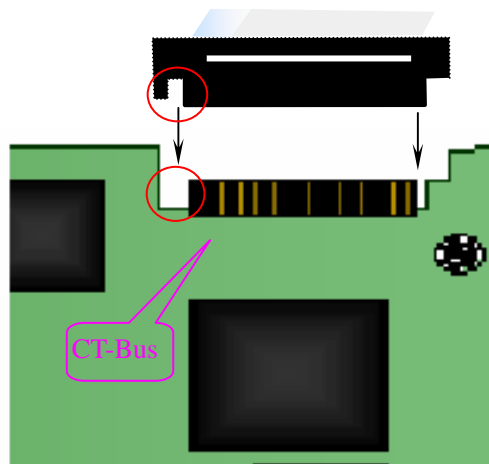

Figure 2-3 Connection of H.100 Bus
- ① See Figure 2-3 for correct insertion. Do not twist or insert in the opposite direction.